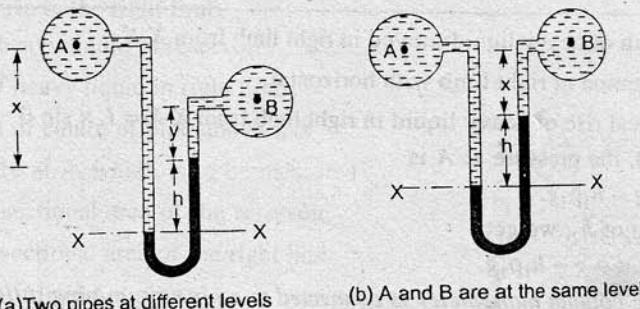

Fig. 2.18 U-tube differential manometers.
**2.7.1 U-tube Differential Manometer.** Fig. 2.18 shows the differential manometers of U-tube type.
**Fig. 2.18 (a).** Let the two points A and B are at different level and also contains liquids of different sp. gr. These points are connected to the U-tube differential manometer. Let the pressure at A and B are  $p_A$  and  $p_B$ .